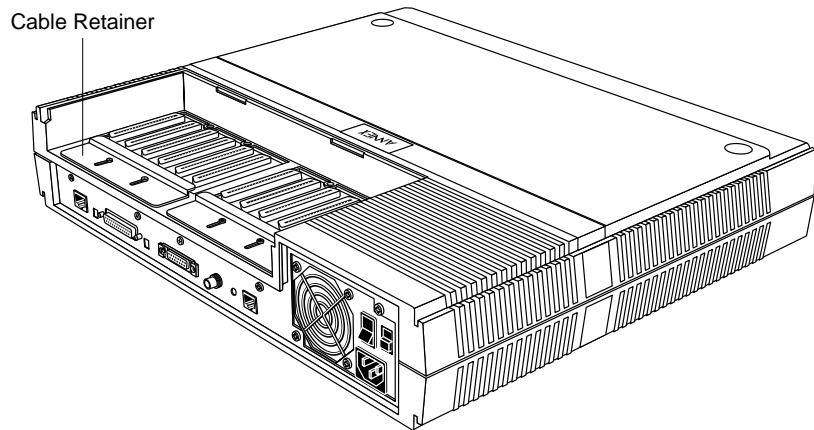

Figure 2-8. Moving the Cable Retainer to Make Room for the Cable
- 2 Loosen the screws that secure the cable retainer and slide the cable retainer back to allow room for the cable (see Figure 2-8).